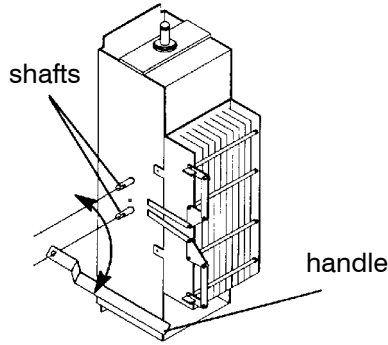

Figure 1-3.
*600 and 800 amp. F-design* See Figure 1-3.